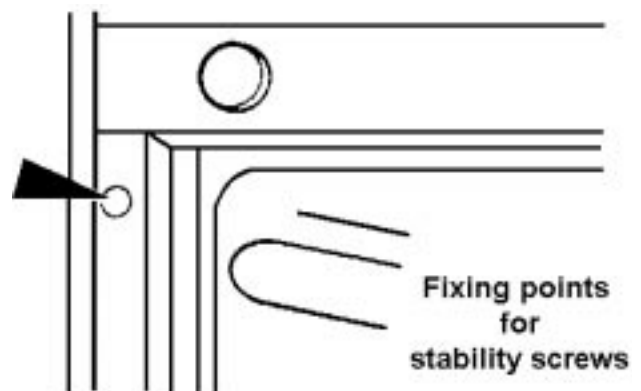

Fig.10
- When the cooker is fully housed screw the stability screws (supplied with the cooker) into the side of the cabinet taking care not to distort the side trims (See Fig. 10). It is advisable to turn each screw alternately to avoid damaging the trims.